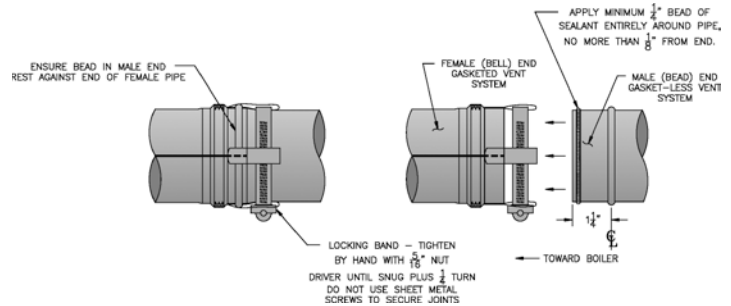

Figure 8B: Burnham Gasket-Less Male and Gasketed Female Vent Joint Detail
In the event a gasketed vent component and a gasket-less vent component must be interconnected, follow the instructions associated with Figure 8B or 8C. The two guiding principles of these instructions are as follows:
1. Procedure for joining the male end of Burnham Gasket-Less Vent with the female end of Burnham Gasketed Vent. See Figure 8B.